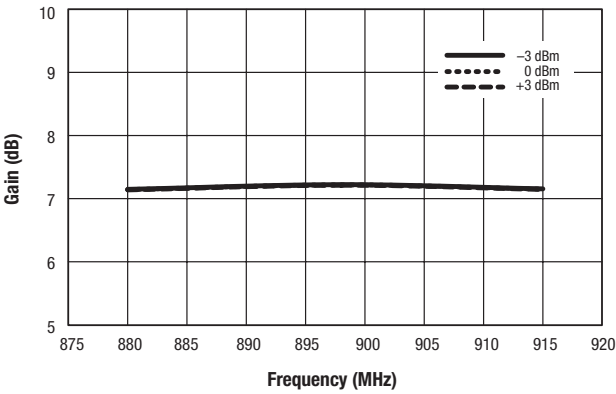

Figure 3. Mixer A Gain vs Frequency and LO Power
Typical performance characteristics of the SKY73020 are illustrated in Figures 3 through 39.
4. Components L5, L6, L14, and L15 (see Figure 3) are high-Q, low-loss inductors. These inductors must be able to pass currents in excess of 200 mA DC.
5. Components R1 and R2 (see Figure 3) allow for external adjustment of the IF amplifier bias points. For operation as specified in Tables 3 and 4, these resistors are not required.